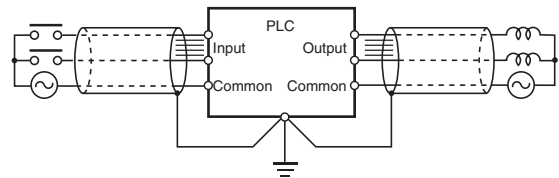

Figure 14. Shield Cable Grounding
- ② The panel which contains the PLC must be insulated from other electrical devices. This is to prevent the effect of the leakage of current from other electrical devices.
- ③ When there is high frequency equipment nearby, please be sure that the panel which holds the PLC is grounded, in addition to the high frequency equipment.
- ④ When grounding the shield conductor in the event of shielded cable used in the wiring of input and output, connect the shield near the PLC to the enclosure ground terminal, as shown in Figure 14. For communication cables, please be sure to maintain shield processing in the communications unit manual.